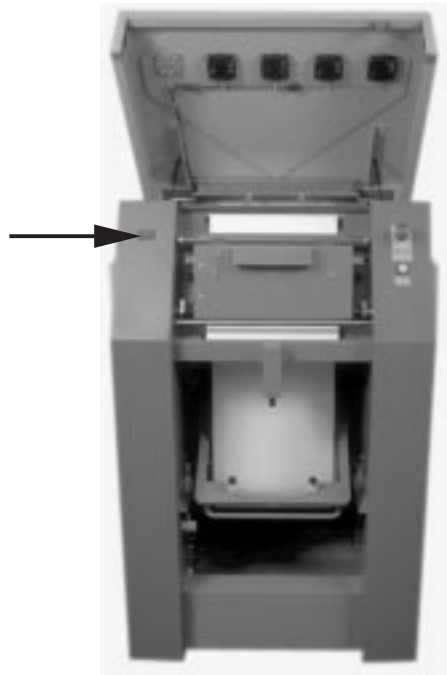

Figure 219. Top Left Button on Paper Supply
- Move the paper supply perpendicular to the web movement by manually pressing the button at the top left of the paper supply, as shown in Figure 219.